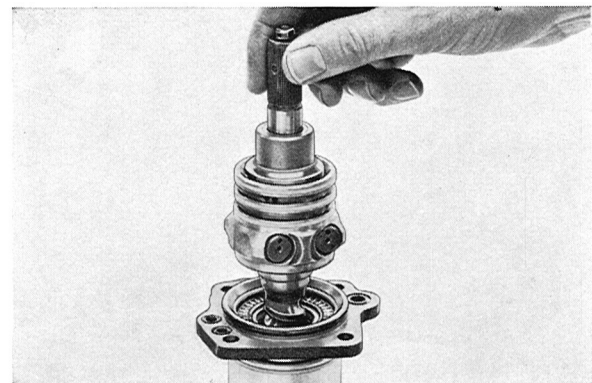

Fig. 6-79. Removing piston
6. Lift the piston and screw out the worm, see Fig. 6-79. Take care when the 23 balls drop out that they do not get damaged. Remove the cover (30), needle bearings (36) and bearing washer (35). Remove the gasket (34) and O-ring (33), shims (32) and O-rings from the cover.